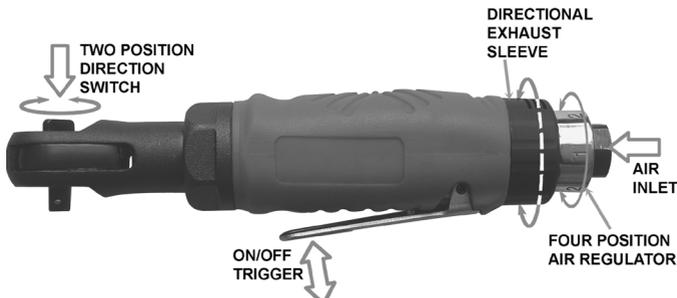

fig 3
- 4.2. Set the integral air regulator to one of the four positions indicated. (See fig.3)
- 4.4. To change wrench direction turn the switch on the head of the wrench. (See fig.3)
- 4.5. The direction of the air flow from the exhaust holes in the sleeve can be altered by rotating the whole sleeve to a suitable position. The sleeve can be rotated continuously through 360°. (See fig.3)